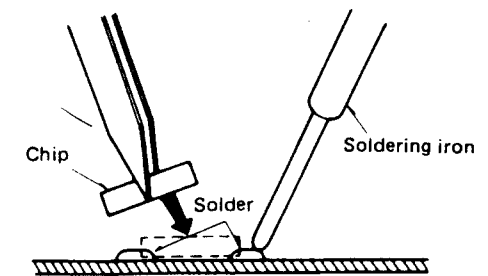

Fig. 23
1. Place solder on the foil where the chip is fitted. Then solder the chip by holding the soldering iron as shown in Fig. 23.